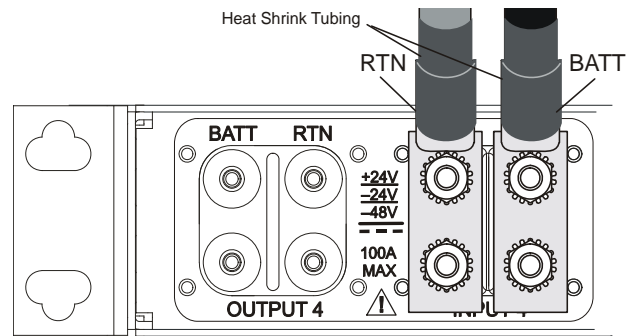

Figure 7 - Input Lug Connections
14. If required, lightly coat anti-oxidant on lugs and input terminals, and then connect lugs to input terminals on back of panel, as shown in Figure 7. Tighten lugs to 20 in.-lb (2.27 N•m).